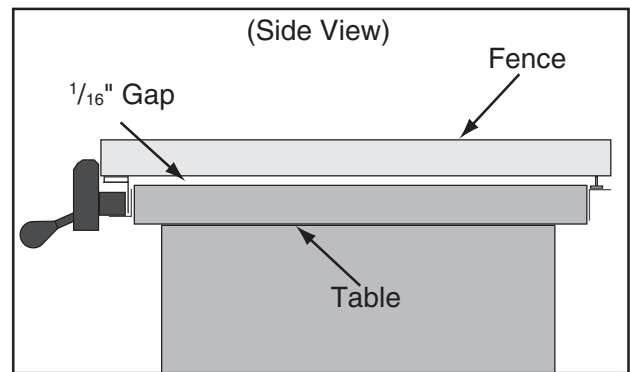

Figure 138. Gap between fence and table approximately $\frac{1}{16}$ " from to back.
- If the gap is approximately $\frac{1}{16}$ " and even from the front of the table to the back (see **Figure 138**), then no additional adjustments are necessary. Proceed to **Clamping Pressure and Parallelism**.
- If the fence drags across the table, loosen the hex nut on the foot at the rear of the fence and adjust the foot to raise the fence off of the table so the gap is approximately $\frac{1}{16}$ " and even from the front of the table to the back (see **Figure 138** on **Page 70**). Tighten the hex nut on the foot to secure the foot in position.